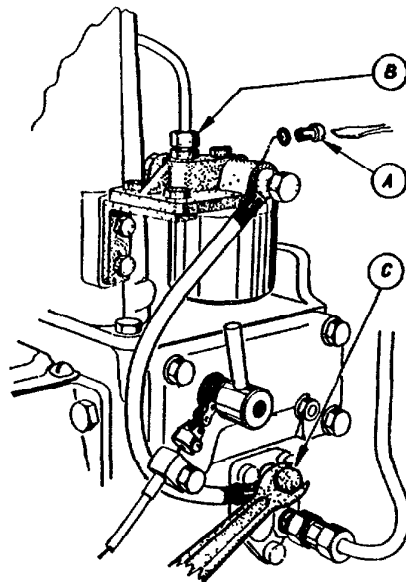

Fig. 2.
### **Bleeding the Fuel System (fig 2)**
1. Fuel filter and fuel tank tube are bled by loosening the fuel leak-off pipe nut on filter (B) or the small bleeding screw (A). Keep open until fuel flows freely without bubbles. Tighten securely.
2. To bleed the fuel suction hose between filter and injection pump loosen the banjo nipple (C) screw on fuel pump 3 turns (see fig. 2). Shake the hose and keep screw open until the fuel flows freely.
Tighten the banjo nipple screw. The suction hose end should point upwards from the banjo nipple to avoid air lock (fig. 2).